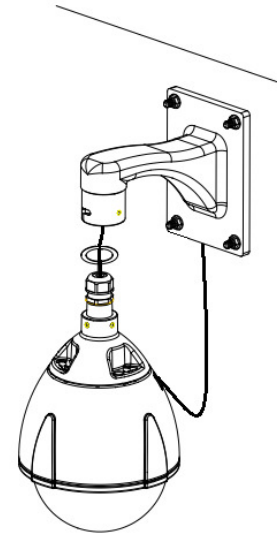

Figure 2
- G) Connect the camera to the connector ring in the clockwise direction. (Figure 2)